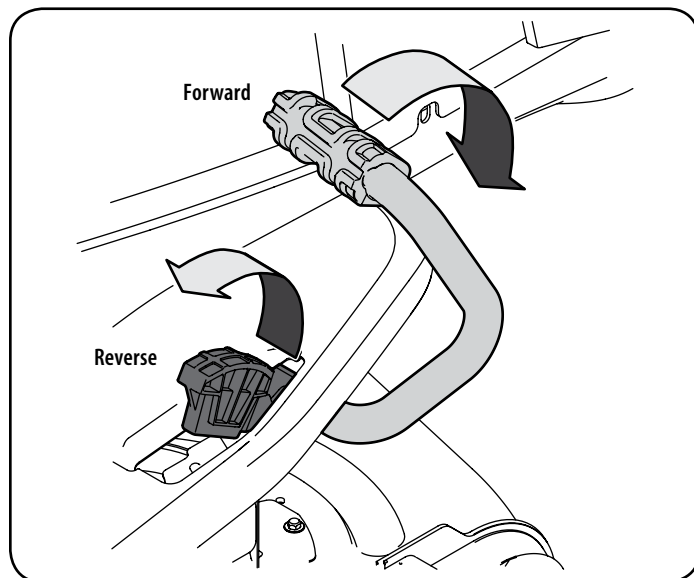

Figure 12
2. To travel FORWARD, slowly press the forward drive pedal forward until the desired speed is achieved. See "Figure 12".
3. To travel in REVERSE, check that the area behind is clear then slowly depress the reverse drive pedal until the desired speed is achieved. See "Figure 12".